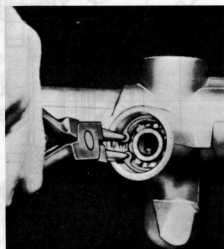

Fig. 11.27. Lower pinion bearing circlip (Sec. 23)
- 11 Extract the circlip and drive out the lower pinion shaft bearing. (Fig. 11.27).